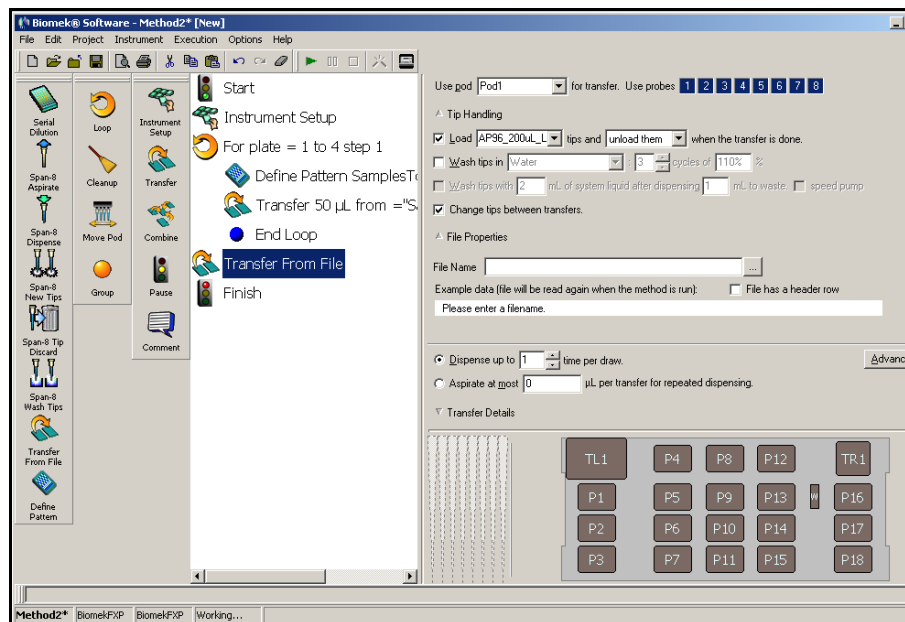

Figure 9-9. Transfer From File inserted
1. Insert a **Transfer From File** step after the end of the Loop step (Figure 9-9).